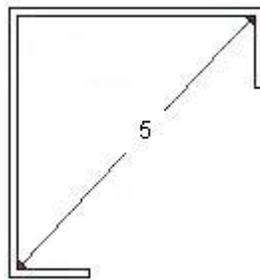
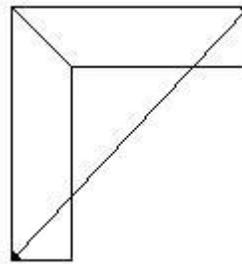

Fig 2
Fig 3
4. Measure diagonal (5 & 6) as shown in Fig 2. Check your corner to corner measurement on your assembled countertop, Fig 3. If these dimensions are within a  $\frac{1}{4}$ ", you should be in good shape. If this dimension is larger than a  $\frac{1}{4}$ " go to the step 6.